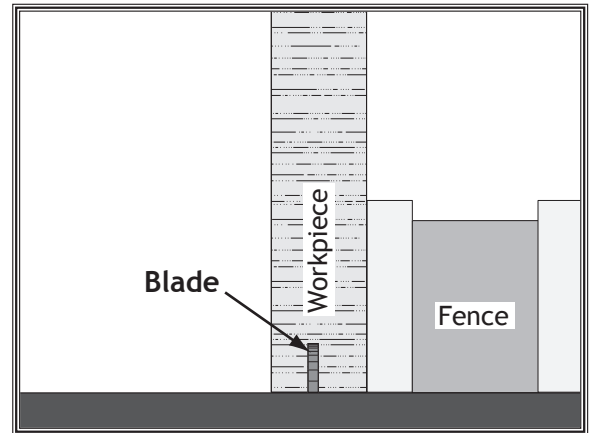

Figure 66. Example of rabbet cutting with a standard blade.
5. Stand workpiece on edge, as shown in **Figure 66**, then adjust fence so blade is aligned with inside of your rabbet channel.